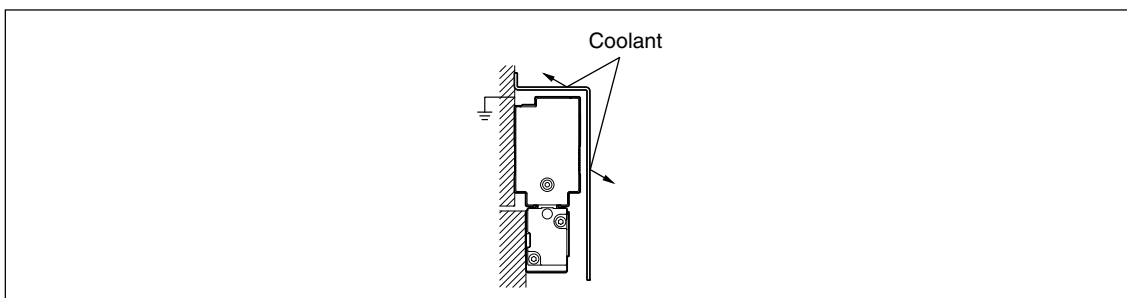

Fig. 2-2
- Be aware that the scale will be damaged if slider moved outside the measuring length (ML).
- In environments where coolant can splash directly on the scale, be sure to mount a cover on the scale to protect the scale from splashing. (Fig. 2-2)